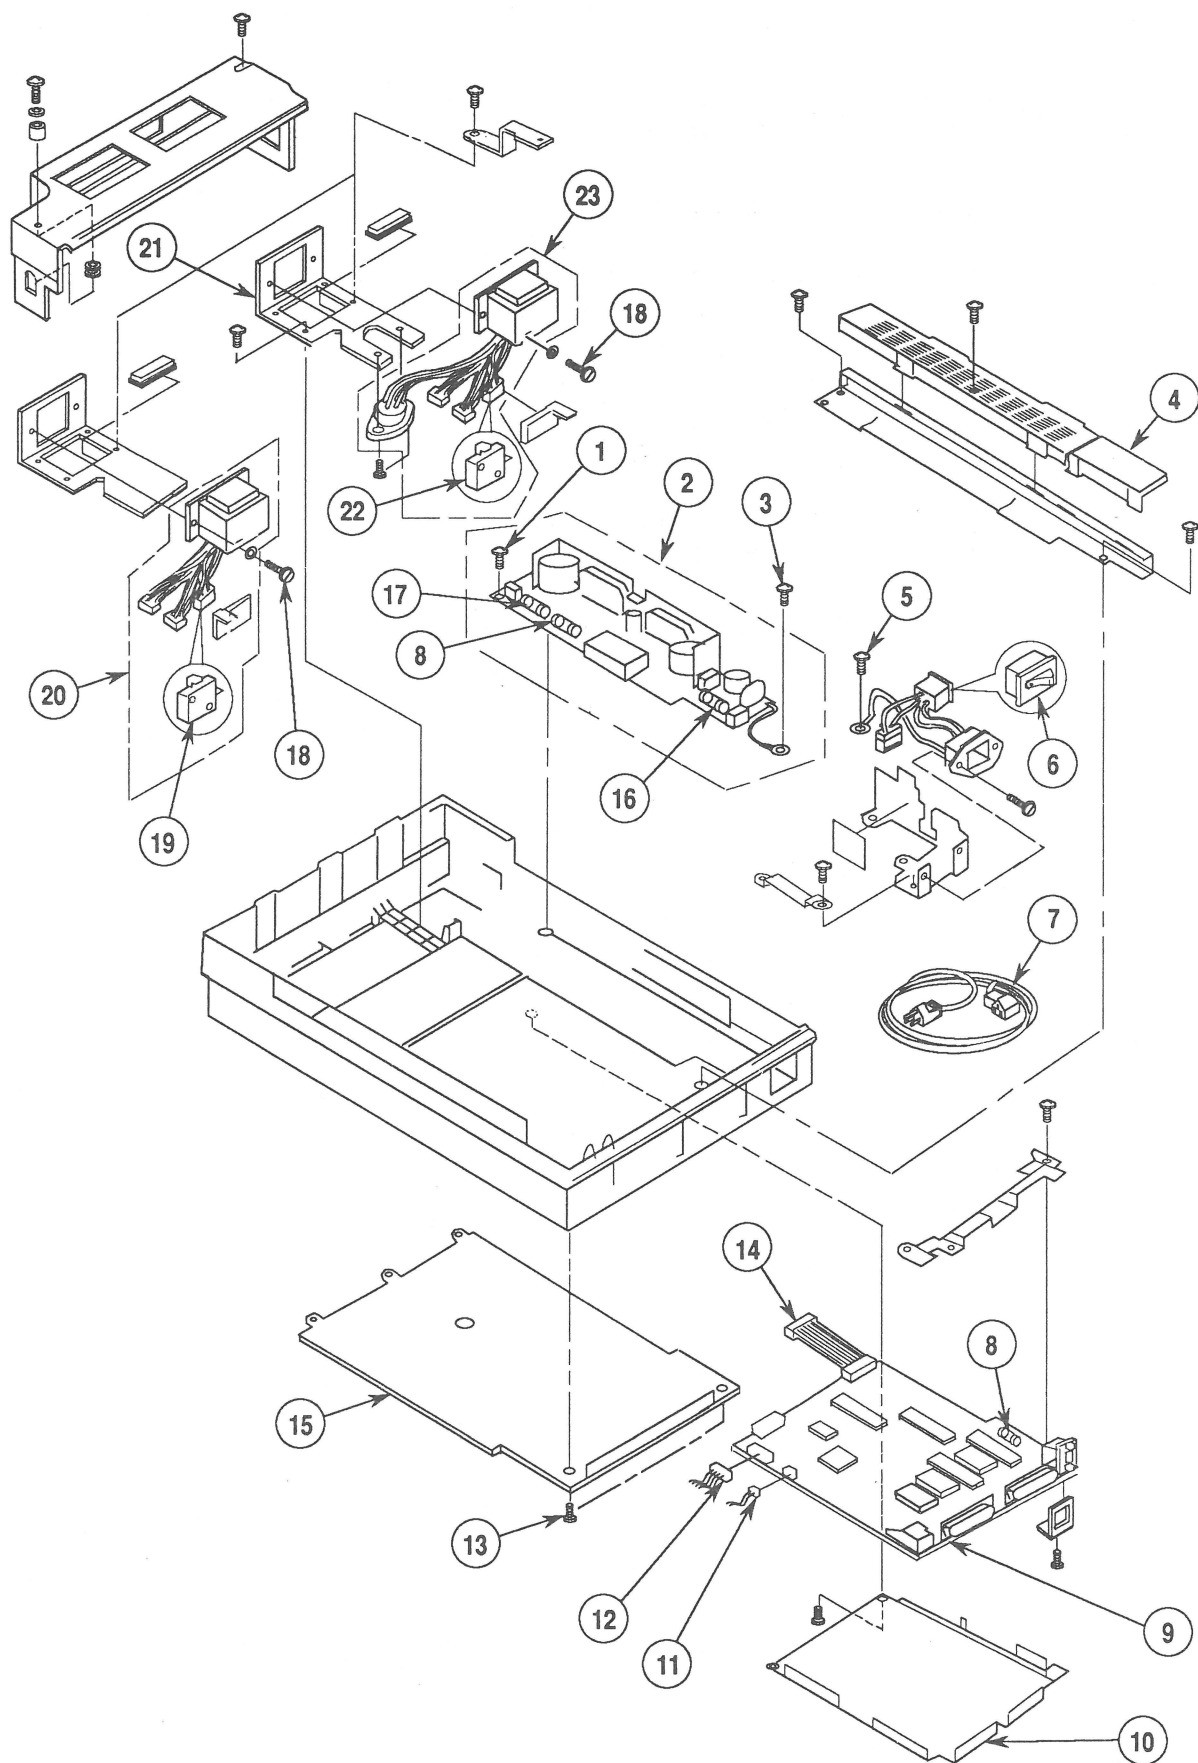

FIGURE 5
□ POWER SUPPLY & PCB (MAIN, PS) ASSEMBLIES (Figure 5)